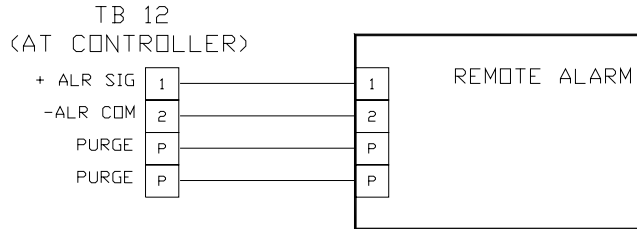

Fig. 1
6. Wire unit as shown in fig.1. **WARNING: To prevent fire or shock hazard turn off supply power sources before making connections. Comply with all local building codes and ordinances.**